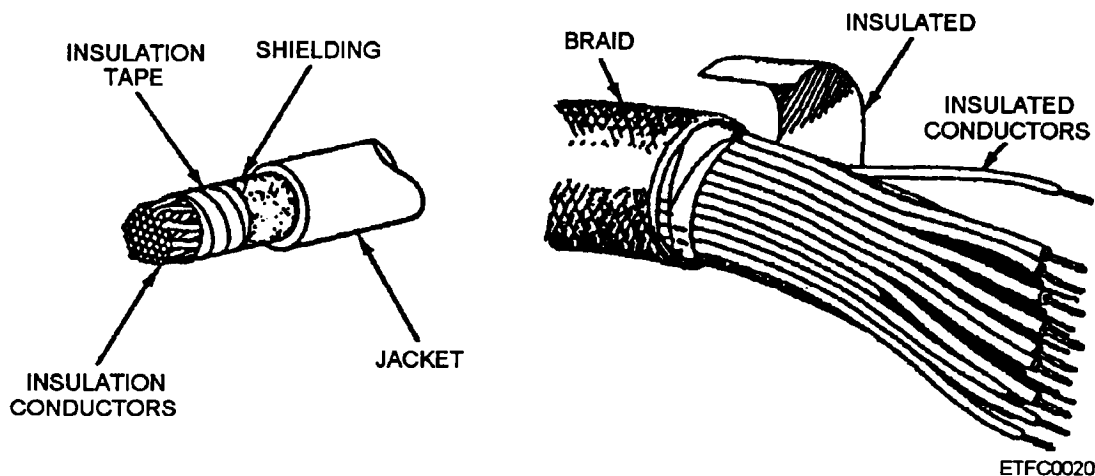

Figure 2-34.—Twisted component or multiconductor cable.
**TWISTED COMPONENT OR MULTI-CONDUCTOR CABLES.**— Twisted component cables consist of multi-insulated wires (solid or stranded), with up to 120 conductors. They can be single wires or twisted pairs. The cable is concentric in shape and the larger cables are usually semi-rigid to provide support and put less strain on the cable itself and its connector (fig. 2-34). Depending on the length of the cable, popular cable types for large main-frames and minis include 2U/2UW/LS2U or 2AU/2WAU/LS2AU. The construction and a description can be found in NEETS, Module 19, *The Technician's Handbook*. Twisted component cables can be terminated with rectangular multipin connectors or circular multipin connectors. They can be used for parallel and serial data transfer and in all types of computers.